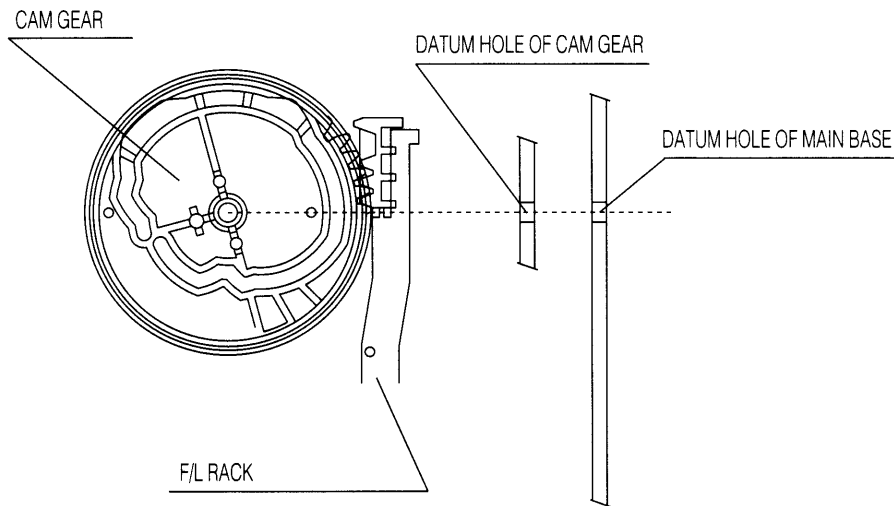

Fig.4-1 DATUM POSITION OF F/L RACK & CAM GEAR
## 4-1. MECHANICAL ADJUSTMENT (See Fig.4-1~4-5)
- a. Make sure that the DATUM HOLE of the CAM GEAR is aligned with the DATUM HOLE in the MAINBASE in the EJECT mode, as shown in Fig.4-1.